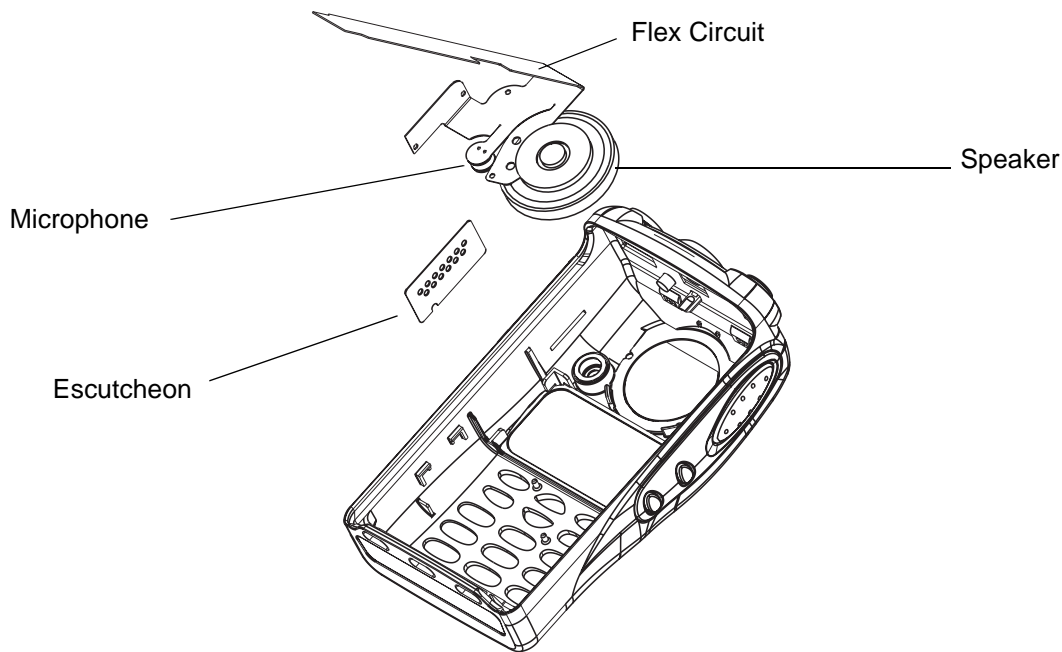

Figure 3-22 Removal Speaker-Microphone Assembly
5. Align the top notch in the speaker at the twelve o'clock position with the tab on the front cover. (See Figure 3-22.) Push down the speaker until the two bottom notches fit into the catches on the housing.